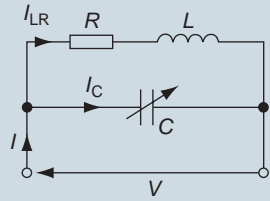

Figure 18.13
6. A parallel circuit as shown in Fig. 18.13 is tuned to resonance by varying capacitance C . Resistance, $R = 30 \Omega$, inductance, $L = 400 \mu\text{H}$ and the supply voltage, $V = 200 \text{ V}$, 5 MHz .